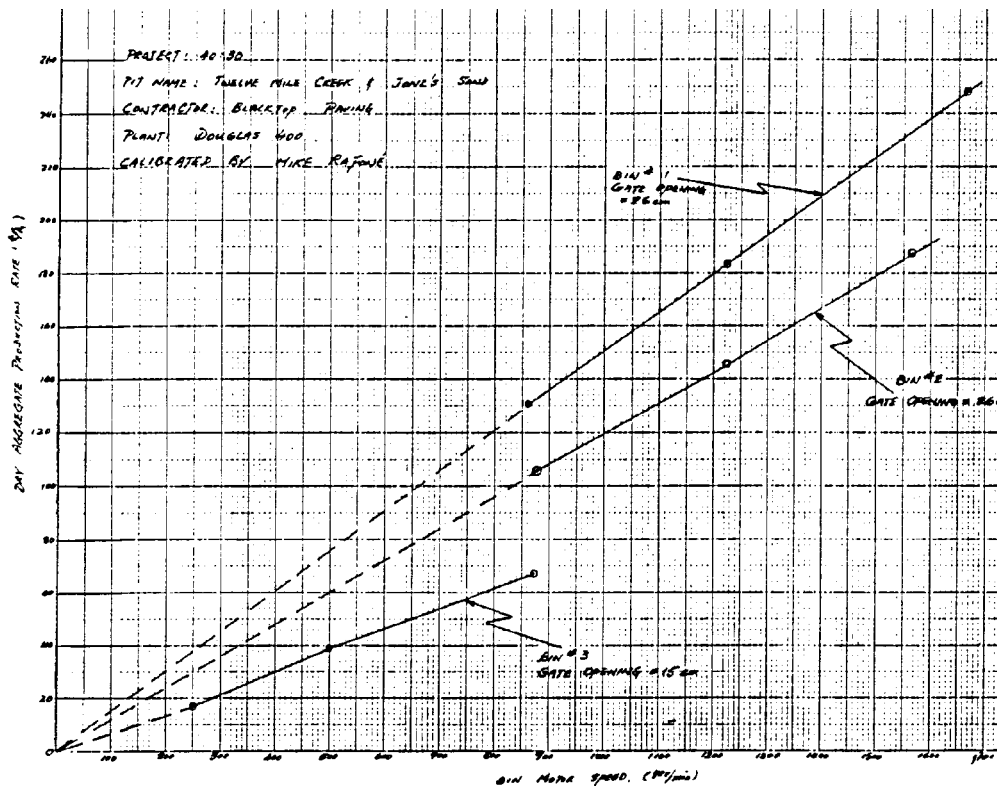

FIGURE 10
23. When the aggregate calibration is complete, draw graphs for each bin. Plot the dry aggregate production rate in t/h versus the speed in rev/min of the feeder motors. Figure 10 shows an example of graphs drawn from the calibration.